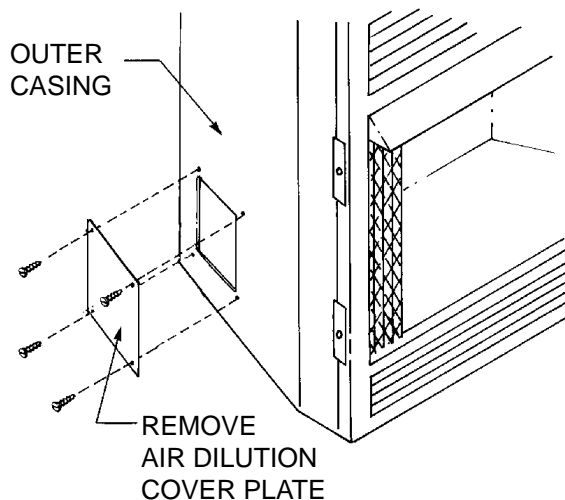

Figure 2 Damper Assembly Location
### Installing Fresh Air Intake Kit (Figures 2, 3, 4, 5, 6)
1. Remove air dilution cover plate from left side of outer casing by removing (4) 10 x 1/2" screws (See Figure 2).
2. Attach damper assembly onto left side of outer casing with (4) 10 x 1/2" screws from Step 1. The 3" damper door tab will be positioned to the right as the damper assembly is attached to left side of outer casing.